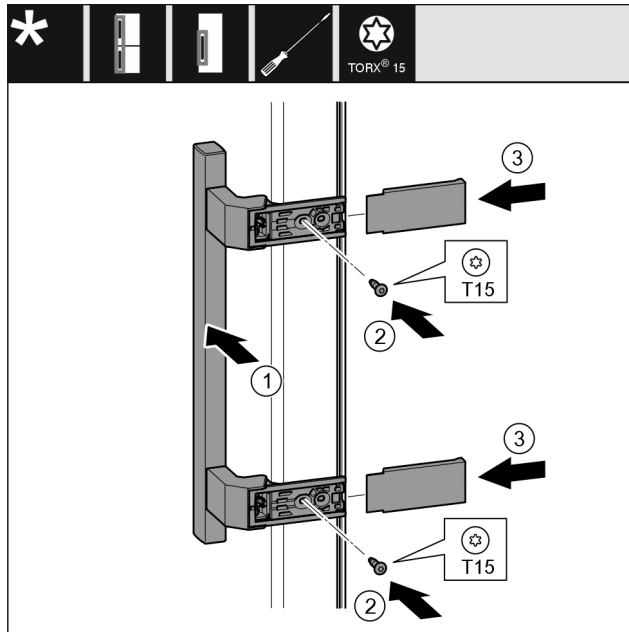

Fig. 25
- ▶ Place the handle Fig. 25 (1) on the opposite side.
- ▶ Tighten screws Fig. 25 (2) with screwdriver.
- ▶ Place the covers Fig. 25 (3) on the side and push them on.